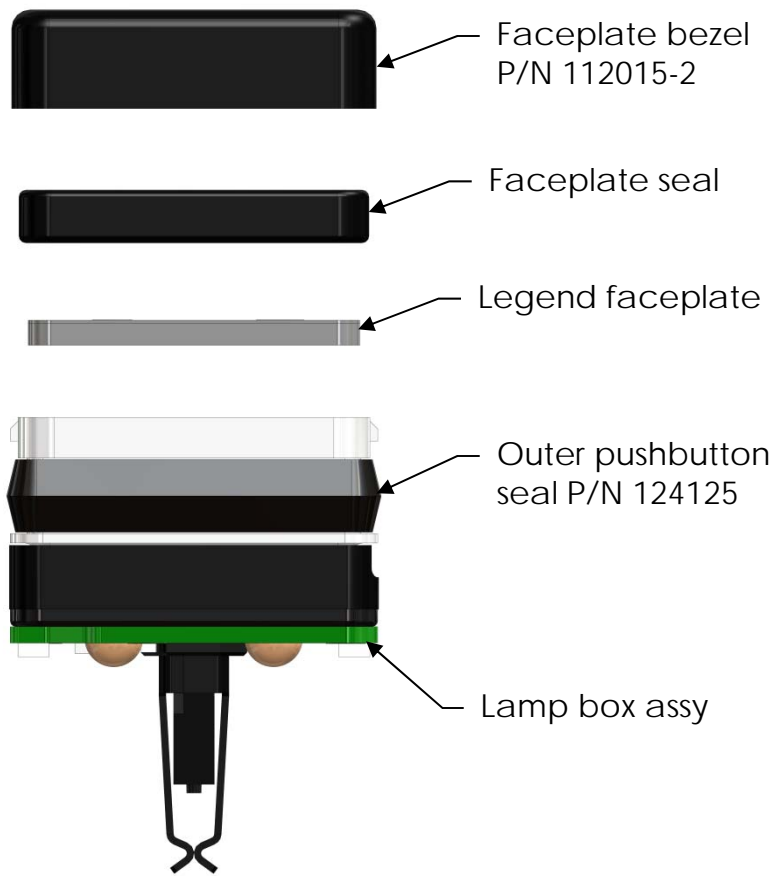

Figure 2 - pushbutton
- 3.1. Remove the pushbutton from the front of the switch/indicator assembly. Use extractor tool PN: 15193. When used, remove and discard the outer pushbutton seal PN: 124125. See Figure 2.